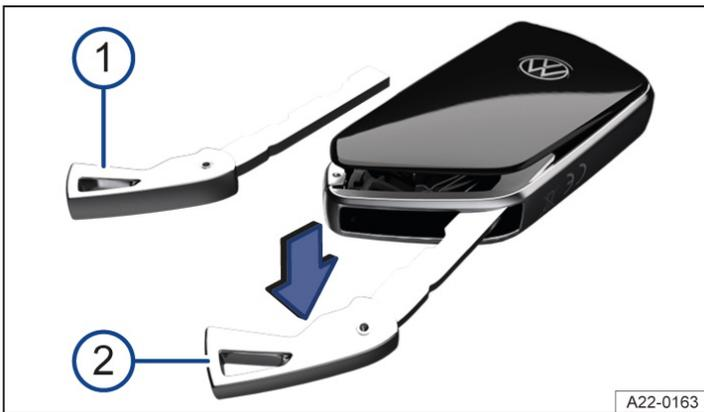

Fig. 1 Vehicle key: opening the battery compartment cover.
1. Remove the manual key → Fig. 1 ① (→ *Vehicle key*).
2. Insert the manual key in the slot, press in the direction of the arrow and lever off the cover → Fig. 1 ②.